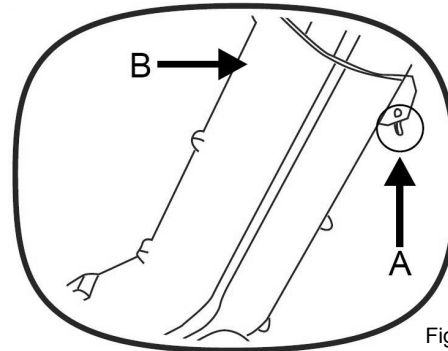

Fig. 7
Press the height adjusting button (A) and slide the Vacuum/Blower tube (B) to desired length. It can be extended up to a length of 30". See Fig. 7.